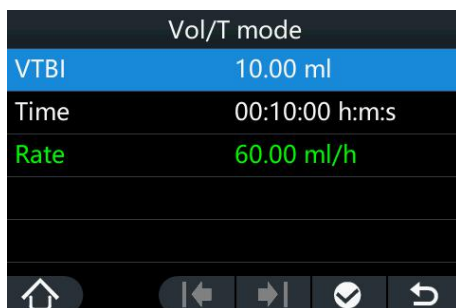

Figure 5-2
- Select menu “” option → “Mode” → “Vol/T mode” to enter the interface as shown in Figure 5-2. Set VTBI and time, and the rate is automatically calculated.